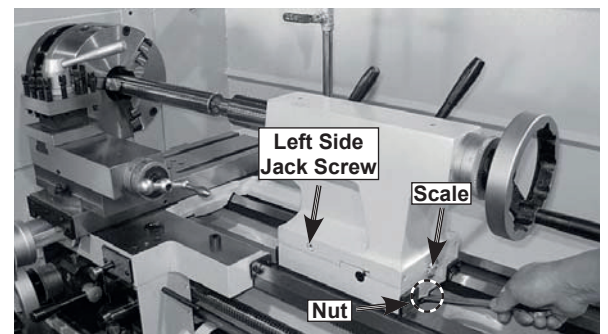
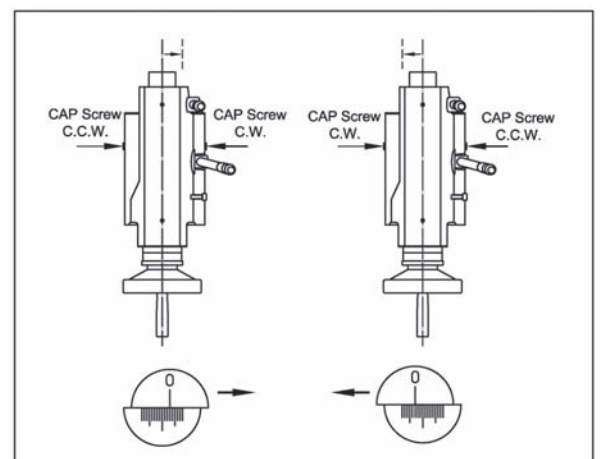

Fig. 34 Tailstock offset adjustments
Fig. 35 Jack screw adjustment versus tailstock movement
2. Loosen two nuts of bottom, adjust the left and right jack screws until the scale (figure 34) indicates the offset you want. See figure 35 for adjustment direction.